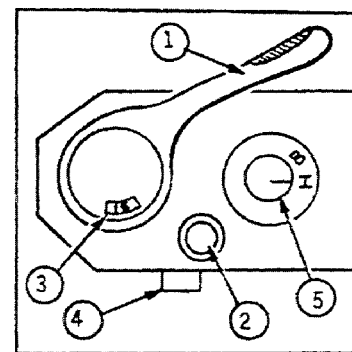

Figure 1-4. Left side.
a. Film Advance Lever (fig 1-4). 1 - advances the film and cocks the shutter in readiness for the next exposure. Shutter Release Button 2 - operates the shutter and fires electronic flash in synchronization. Exposure Counter 3 - shows how many frames have been exposed. Indicates numbers from -2 to 37. Automatically resets to -2 when camera back is released. Double Exposure Button 4 - allows the shutter to be cocked for multiple exposure without moving the film. Shutter Knob 5 - rotates as shutter is cocked (clockwise) and released (counter-clockwise), Acts as a selection for "I" and "TB" settings.